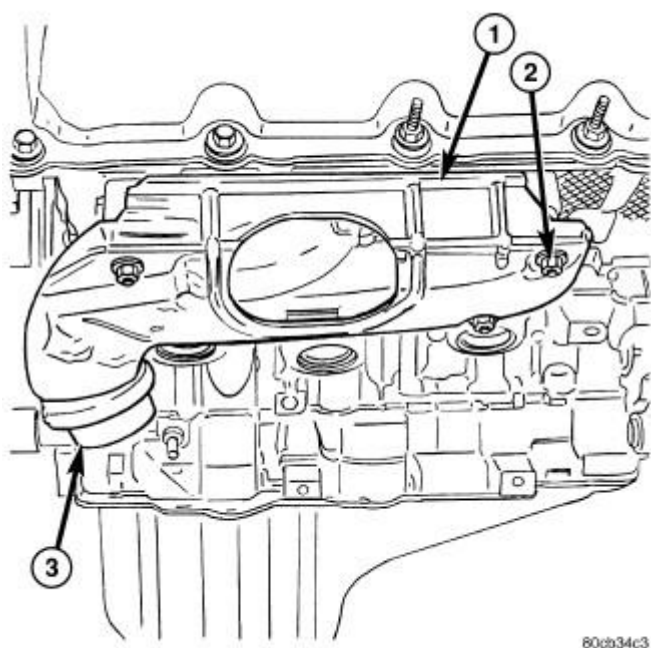

Fig. 138: Exhaust Manifold Right
5. Remove the exhaust heat shield (1).
7. Remove manifold and gasket from the cylinder head. Refer to **Fig. 138**.